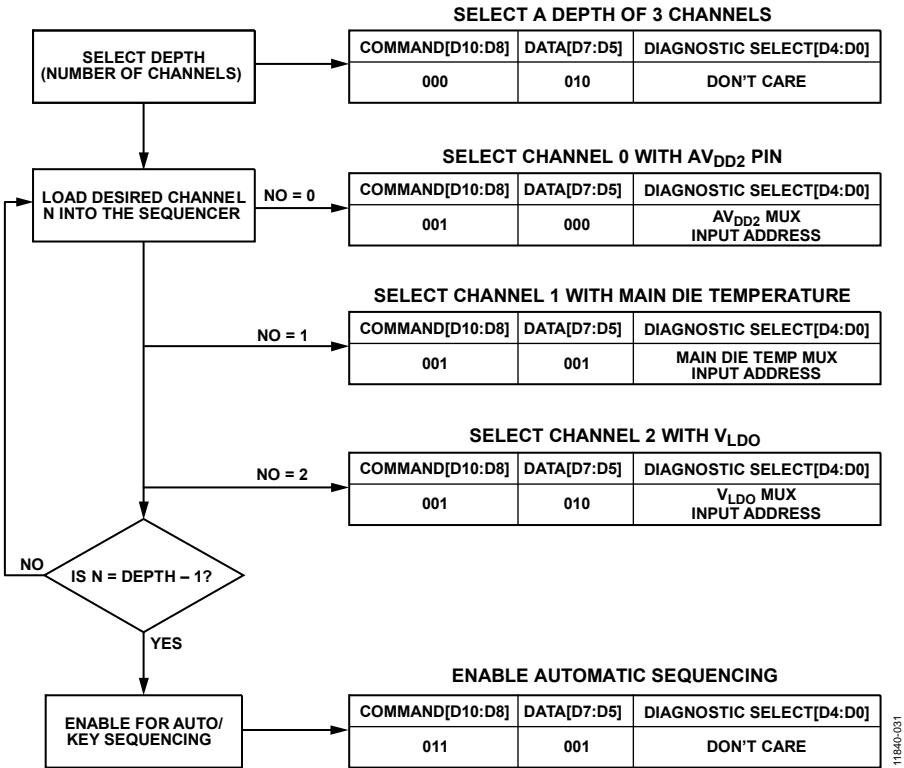

Figure 86. Example Automatic Sequence Mode Setup for Three ADC Input Nodes
configure all the required channels before Command 0b010 is issued to enable key sequencing mode (see Figure 86). If the sequencing is disabled and later reenabled, the sequencer is reset to recommence converting on the first channel in the sequence.
Sequencing starts on the next valid SPI frame, starting with Channel 0 and continuing to Channel N – 1, where N is the depth, on every valid SPI frame. When the sequence is complete, it starts again with Channel 0 until disabled. As with the key sequencing mode, Command 000 and Command 001 must be used to configure all the required channels before Command 011 is issued to enable automatic sequencing mode (see Figure 86). If the sequencing is disabled and later reenabled, the sequencer is reset to recommence converting on the first channel in the sequence. When reenabled, the channels do not need to be reconfigured unless the desired list of nodes changes. Use automatic sequencing in conjunction with the autostatus readback mode to ensure that the latest ADC result is available.
- An example of configuring the sequencer to monitor three ADC nodes is shown in Figure 86.